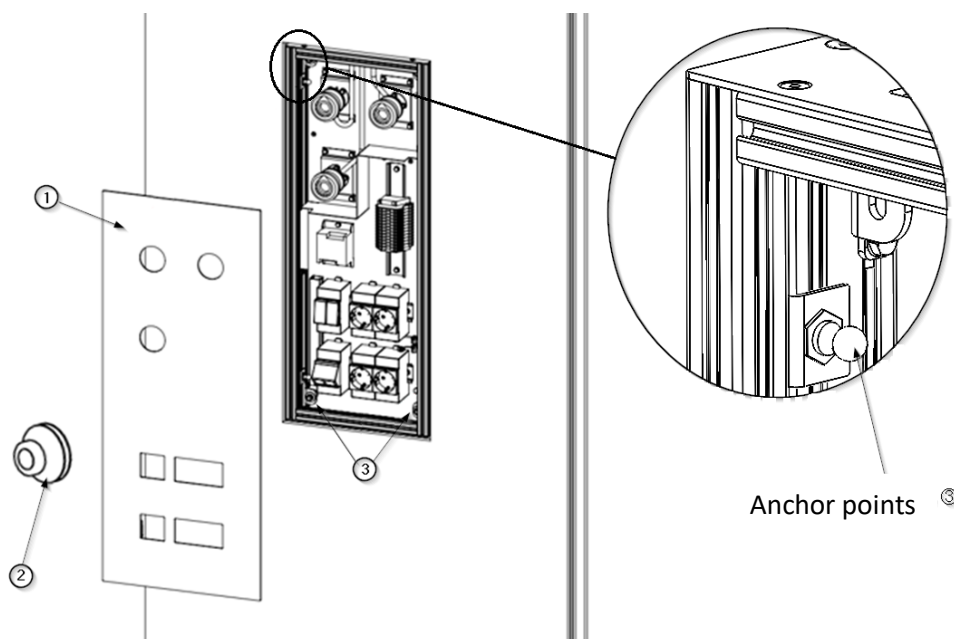

Fig. 3 Removal of ANTEA's front panel
- Remove the cover ① using the suction cup ② as shown in figure 3. All circuits, gas, electrical, voice and data, will be exposed.
- To refit, present the cover and locate the anchorage points ③.
- Press on the cover in the area of the anchor points ③ until you hear the clipping sound.